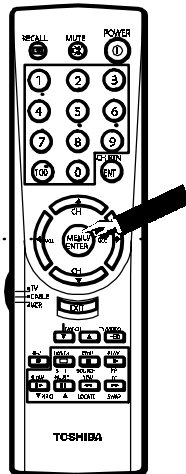

Figure 5
5. Press the “ENTER” key on the remote, as shown in Figure 5, to load the backup data.